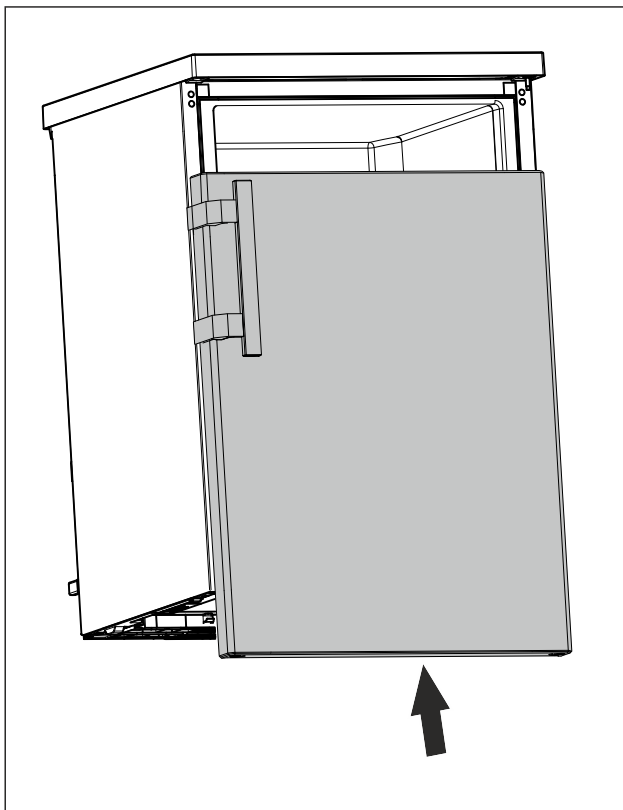

Fig. 15
- Slide the door onto the upper bolt in closed status. (see Fig. 15)